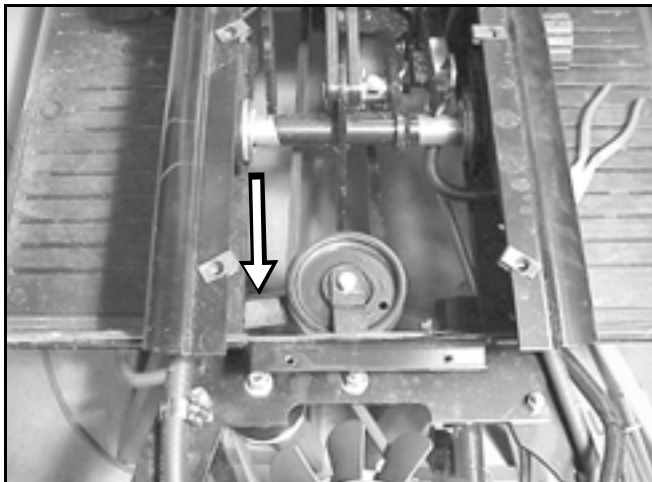

Figure 133
4. Install the drive belt around the transaxle input pulley. Install the idler spring on the idler pulley (Figure 133).